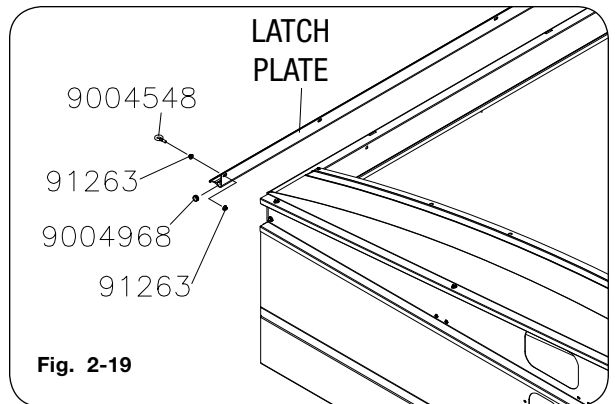

Fig. 2-19
- Secure latch plate to front of panel with eyebolt (9004548) and two flange nuts (91263). See Figure 2-19.